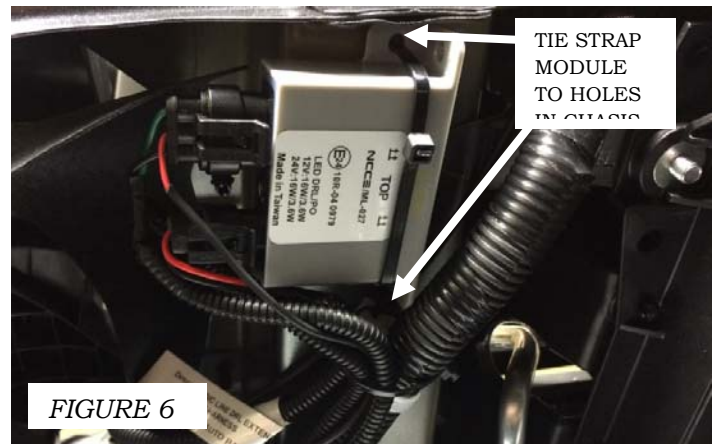

FIGURE 6
1. MOUNT THE CONTROL MODULE TO THE CHASSIS OF THE VEHICLE IN THE AREA BETWEEN THE LEFT HEADLIGHT AND THE RADIATOR AS SHOWN IN FIGURE 6.